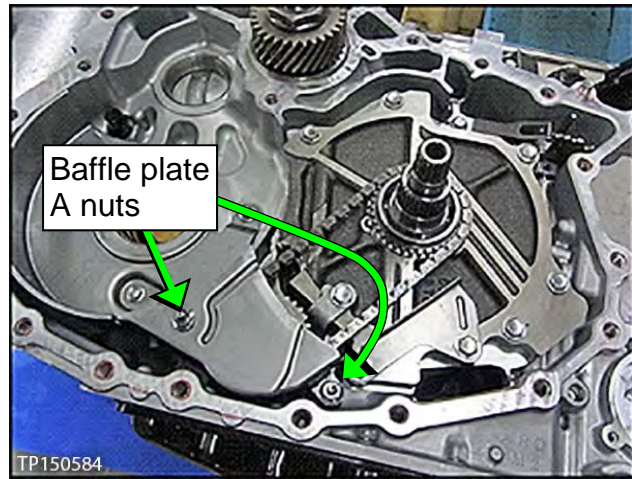

Figure 143
108. Install baffle plate A with two (2) nuts (Figure 143).